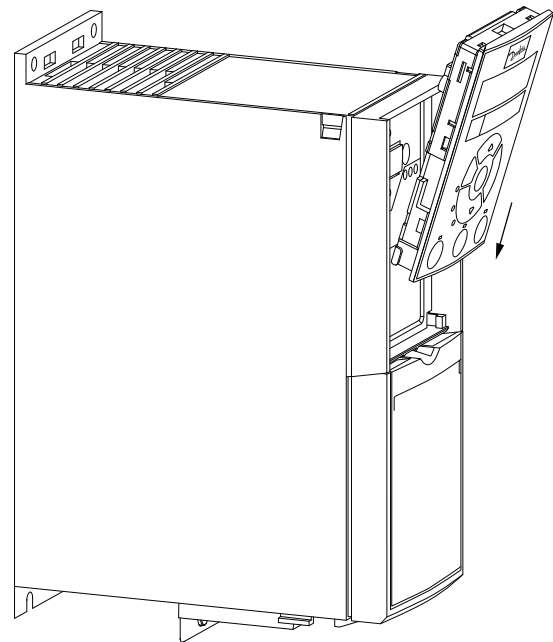

Fig. 84 — Aligning Bottom of VFD Keypad with Opening in VFD Front Panel
1. Place the bottom of the VFD keypad into the variable frequency drive as shown in Fig. 84.